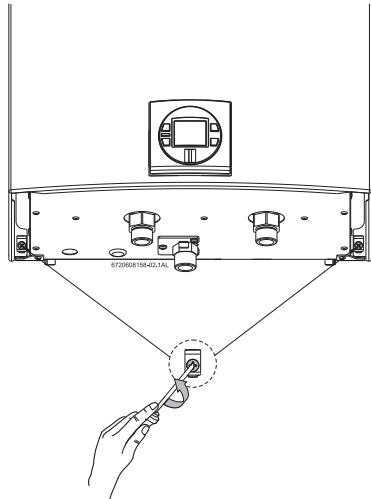

Fig. 2 Loosen the two screws
- Loosen the two Philips head screws located on bottom rear of cover (see Fig. 2).